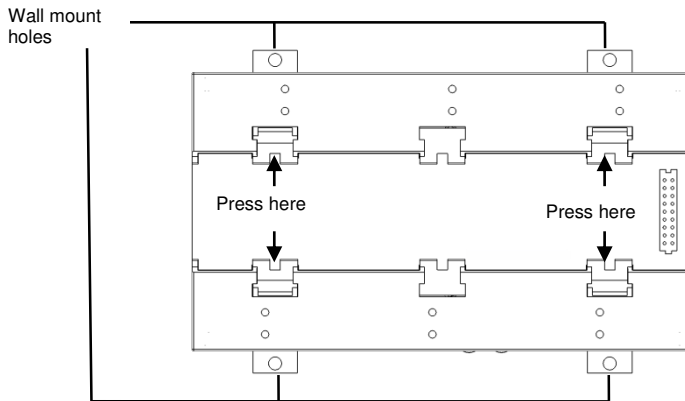

Figure 4: Clips in Open position
- 3 Position the device on the wall with the open clips, as shown in Figure 4. Mark points through the holes of the clips and drill holes using a 4mm diameter drill bit.